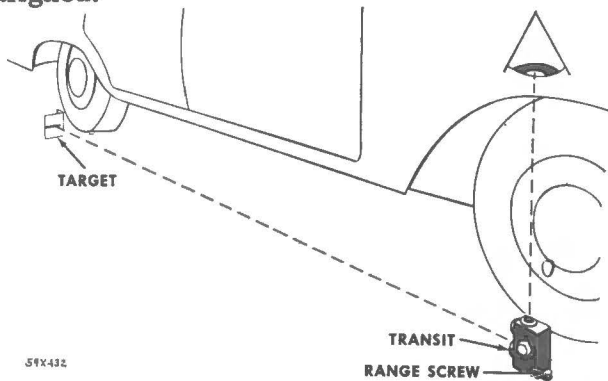
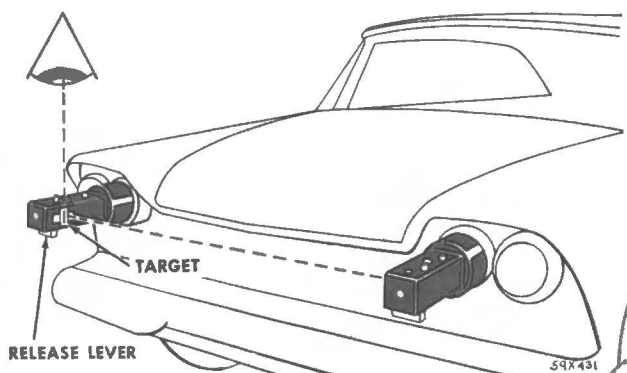

Fig. 2 - Determining slope of floor (typical).
Fig. 4 - Mounting and adjusting aimers (typical).
(1) For mechanical aim, the slope of the floor should be known.
(2) Place transit on floor in line with vertical centreline of the right front wheel (Fig. 2). Place split image target in like position at right rear wheel.
(3) Adjust range screw on transit until target split image coincides or merges into one unbroken line.
(4) Turn dial on side of transit until bubble in spirit level is centred.
(5) When bubble is centred, note plus or minus reading on compensator scale. This figure indicates the degree of slope of the floor and must be transferred to each aim-er.
(6) With a screwdriver, turn adjusting slot of floor level compensator in each aim-er, until the correct plus or minus figure (or fractional part) appears in the correct window (Fig. 4).